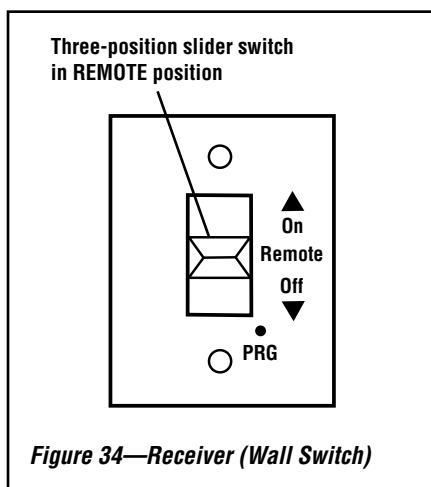

Figure 34—Receiver (Wall Switch)
4. Insert the three (3) provided AAA batteries into the battery bay in the transmitter, taking care to correctly align polarity (+/-).
5. Insert the four (4) provided AA batteries into the receiver battery bay (behind the wall switch plate), taking care to correctly align polarity (+/-).
6. On the receiver, place the three-position slider switch in the REMOTE position (**Figure 34**).